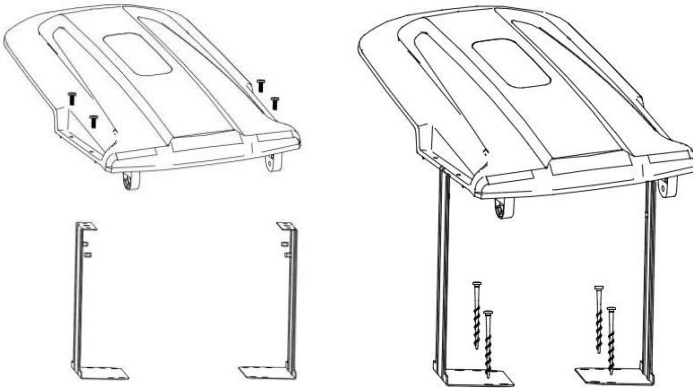

Fig.1 Fig.2
1. Connect the protective cover in the supports with four screws and nuts (Fig.1)